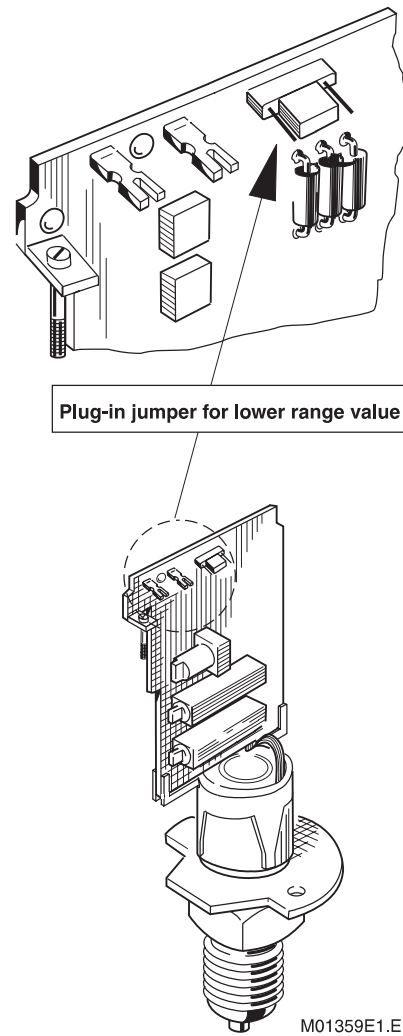

Fig. 21. Position of the "plug-in jumper" e.g. AMD 200
1. For presetting the lower range value there is a **plug-jumper** and a **solder link** on the electronic pcb (Fig. 21). Using Table 2, determine the position of the **plug-jumper** and a **solder link** according to the desired characteristic.